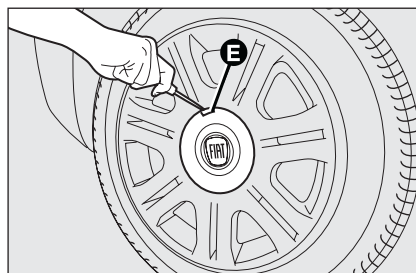

fig. 12
- ☐ If the car is fitted with alloy rims, remove the wheel hub with the screwdriver provided levering in the groove **E-fig. 12**, as shown in the figure;
- ☐ Loosen the bolts on the wheel to be replaced by about one turn with the wrench provided **E-fig. 12**; if the car is fitted with alloy rims, shake the car to facilitate removing this rim from the wheel hub;
- ☐ Operate the device **F-fig. 12** and extend the jack until groove **G** on the jack fits correctly into ridge **H** on the body near sign **I** (at about 60 cm from the front wheel centre or 80 cm from the rear wheel centre);